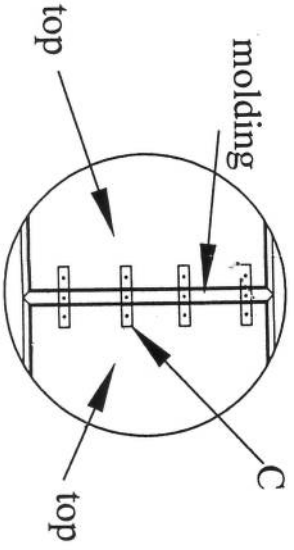
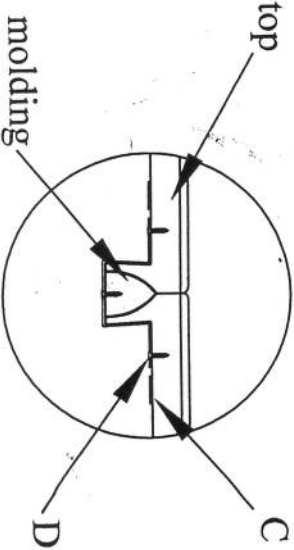

FIGURE 5
FIGURE 6
5. Install four brackets (C) (to support moldings) with three screws (D) per bracket as shown in fig. 5 and fig. 6.